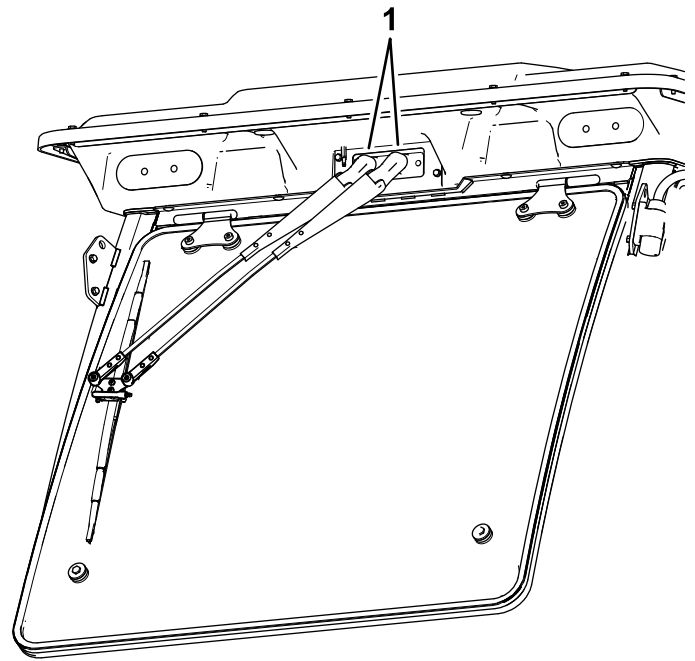

Figure 88
1. Open the caps at the top of the wiper arms (Figure 88).